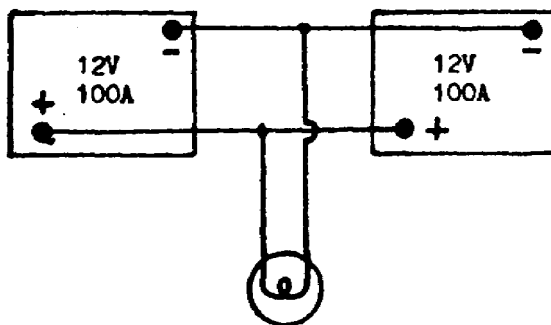

Figure 25. 24-volt, 200-ampere-hour supply.
f. Batteries are connected in series-parallel to increase both the voltage and ampere-hour rating. To demonstrate how to make use of the series-parallel connection let's say that we require a 24-volt, 200-ampere-hour power source. We will use four 12-volt, 100-ampere-hour batteries. The batteries are first set apart into groups of two. In each group the batteries are connected in series so they will provide 24 volts and 100-ampere-hours per group. Then, the two groups are connected in parallel to increase the capacity rating to 200 ampere-hours (fig 25).